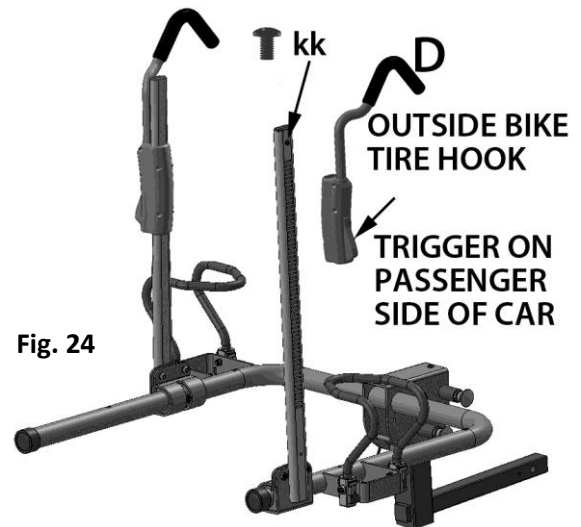

Fig. 24
**Per Fig. 24:** Slide the Outside Tire Hook **D** down over the inner ratchet arm. Note the trigger faces the passenger's side of the vehicle. Hook will be centered over the rack's outer bike tire cage. Install washer & screw into hole located at top of ratchet arms with screwdriver.